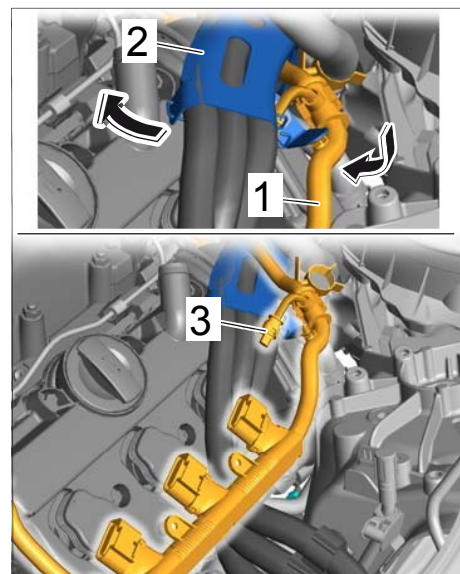

Figure 13
- 5.11 Pull the main wire harness ⇒ *Figure 13* **-item 1-** through under the holder for the high-voltage wires ⇒ *Figure 13* **-item 2-** until the hydraulic valve connector ⇒ *Figure 13* **-item 3-** is easily accessible as shown.